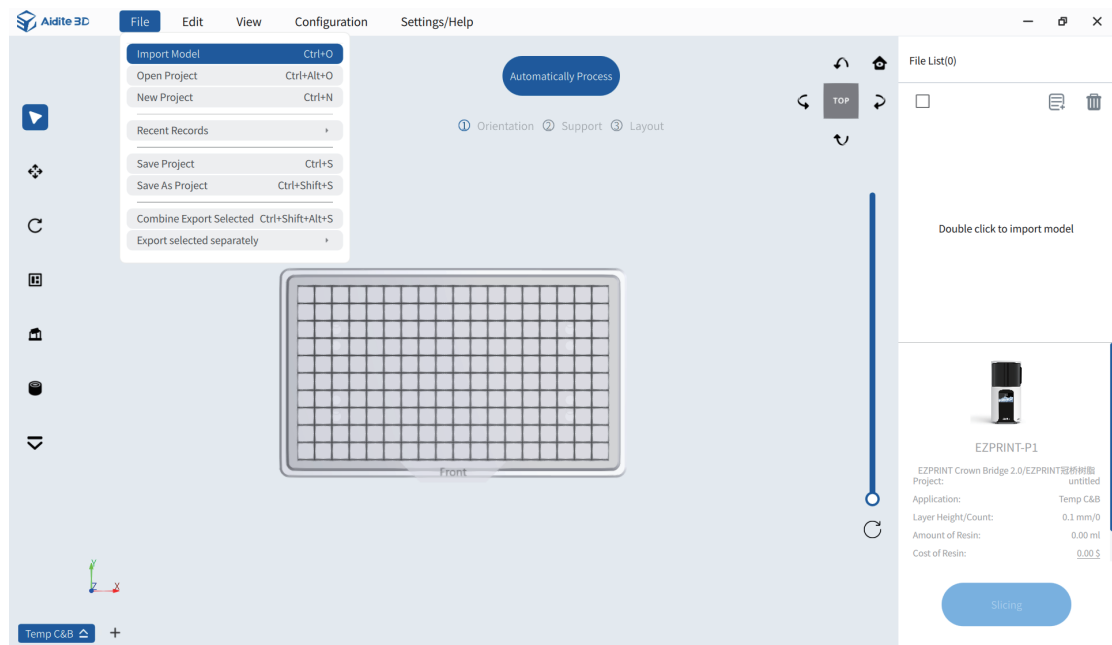

Figure 2
(2) Import the bridge STL file, see Figure 2.